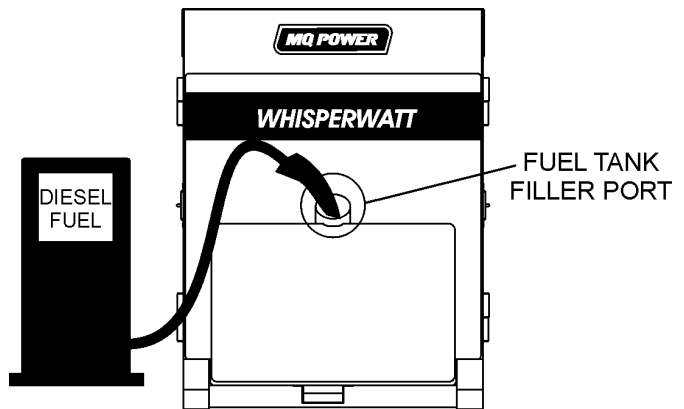

Figure 29. Fueling the Generator
2. Open cabinet doors on the “right side” of the generator (from generator control panel position). Remove fuel cap and fill tank (Figure 29).